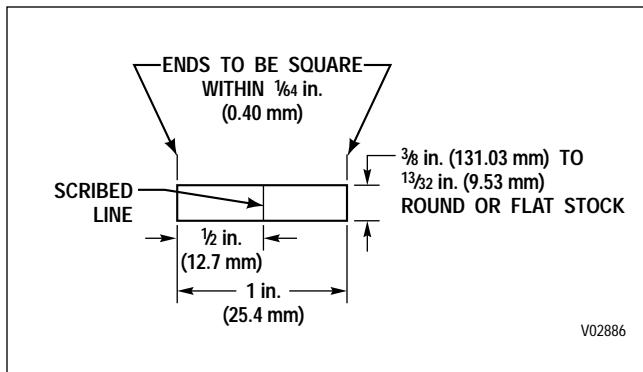

Figure 3-10. Gauge for Comparing Vacuum Modulators
(3) **Modulator comparison check.** Using a comparison gauge (Figure 3-10), compare the load of a known good modulator with the assembly in question.